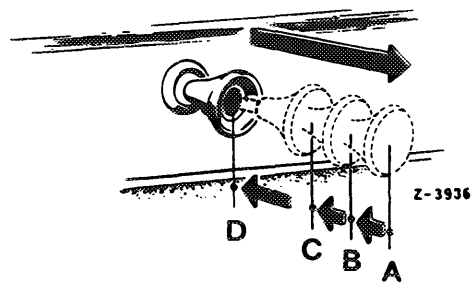

Fig. 07-3/10
3 Run engine at idle speed. Pull starter cable on instrument panel to position "A". On starter cable with one detent push into position "B", and on starter cable with two detents into position "C", then adjust to speed of 1700-1800/min by means of starter adjusting screw (6) (Fig. 07-3/9 and 10).